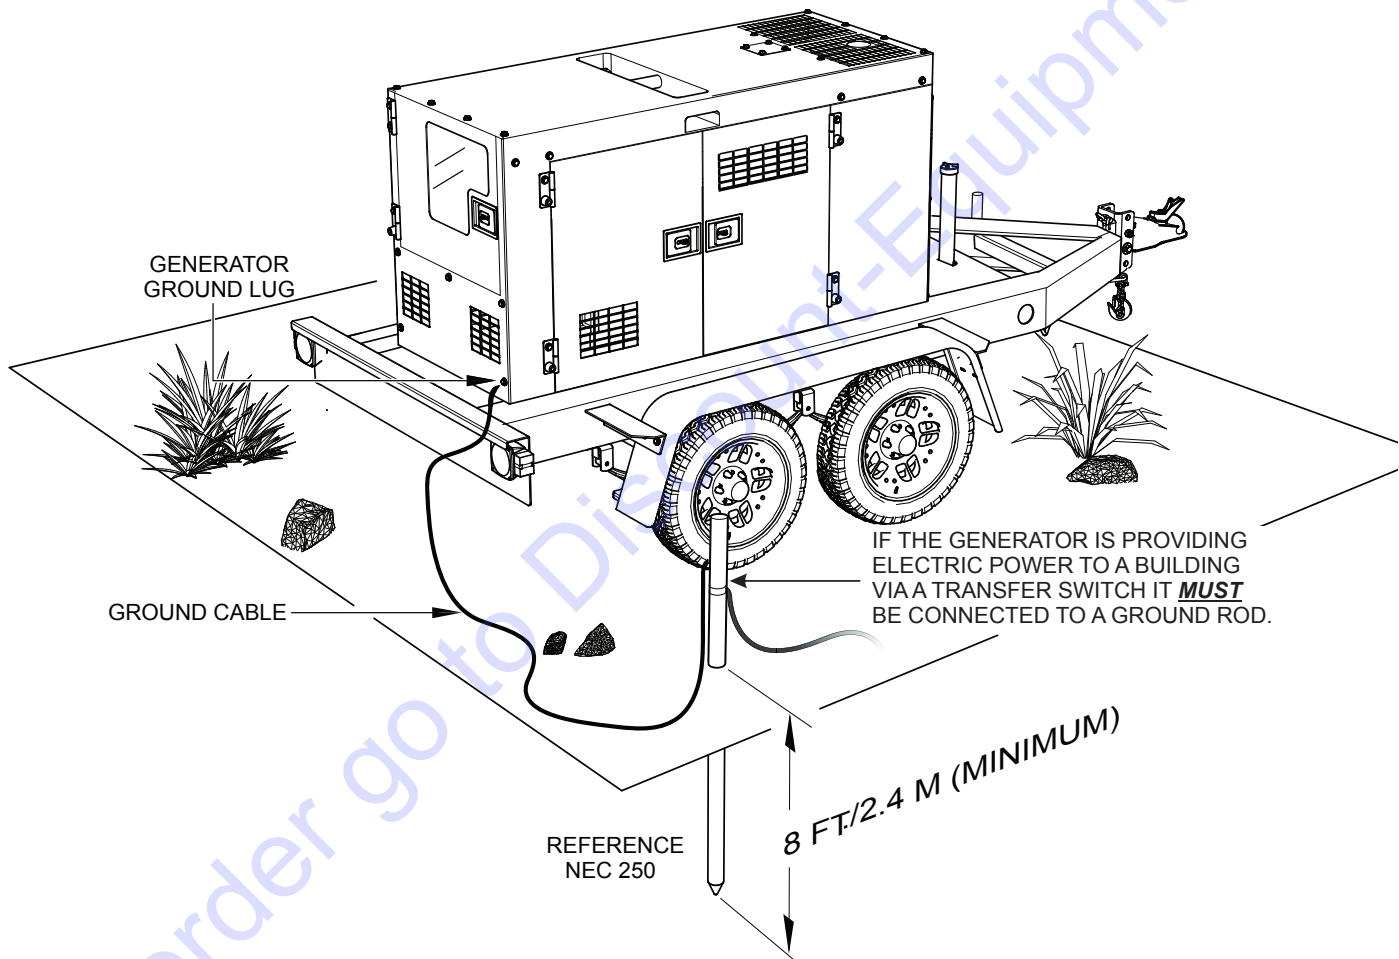

Figure 3. Typical Generator Grounding Application
Connect one end of the ground cable terminal to the generator ground point (Figure 3). Connect the other end of the ground cable to a suitable earth ground (ground rod).
The Occupational Safety and Health Administration (OSHA) and the National Electrical Code (NEC) recommend that if the generator is providing electrical power to a structure (home, office shop, trailer or similar), it **must** be connected to a grounding electrode system, such as a driven ground rod (Figure 3).
If applicable, to guard against electrical shock and possible damage to the equipment, it is important to provide a good **EARTH** ground (Figure 3).
2. When grounding of the generator (Figure 3) is required, connect one end the ground cable to the ground lug on the generator. Connect the other end of the ground cable to the ground rod (earth ground).